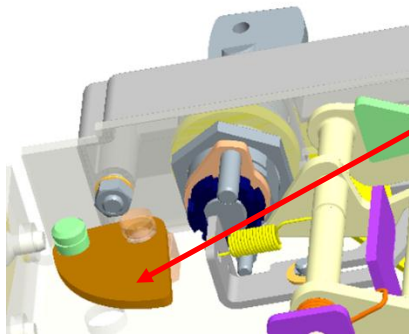

Figure 10
- Assembly the front lever on the front lock support (Fig 10).